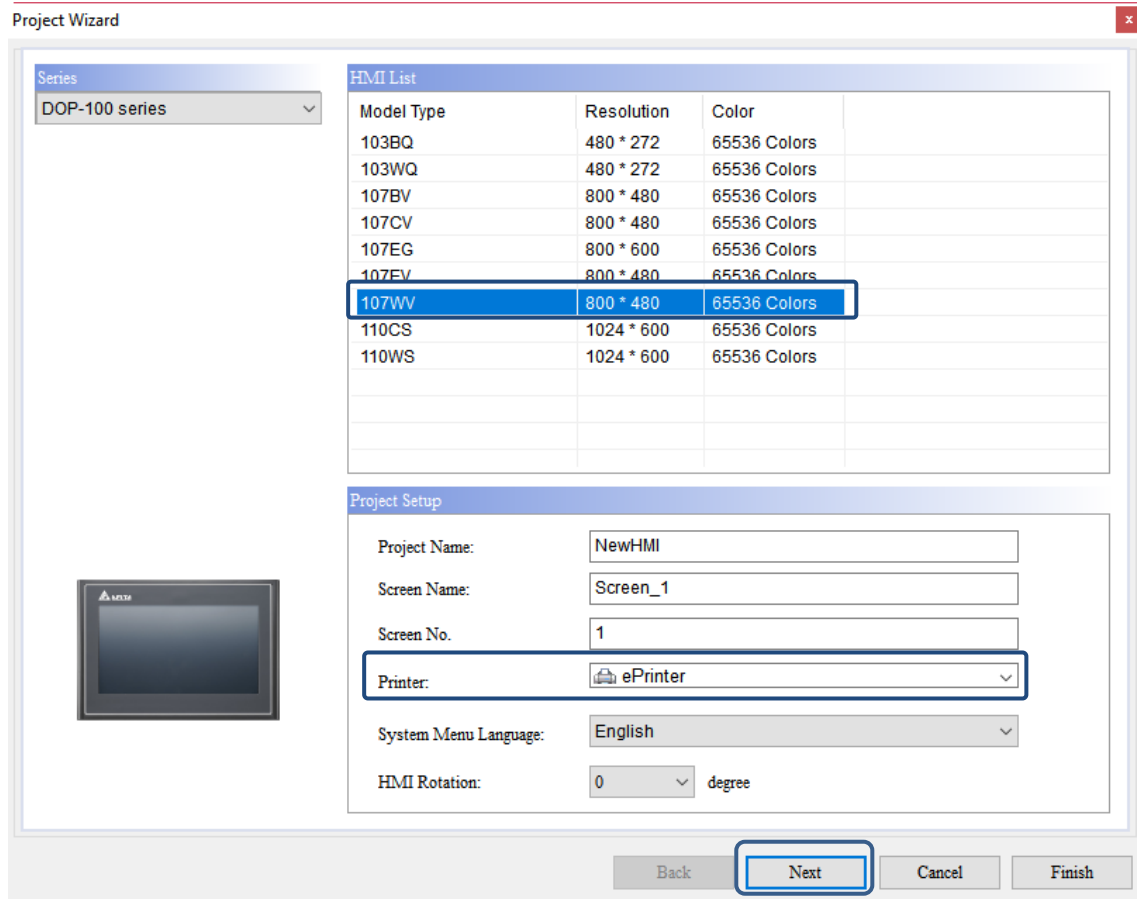

Figure 26.2.2.1 HMI screen setting I
1. Create a project. Select 107WV and set ePrinter as the Printer (as shown in Figure 26.2.2.1). Then click on **Next**.